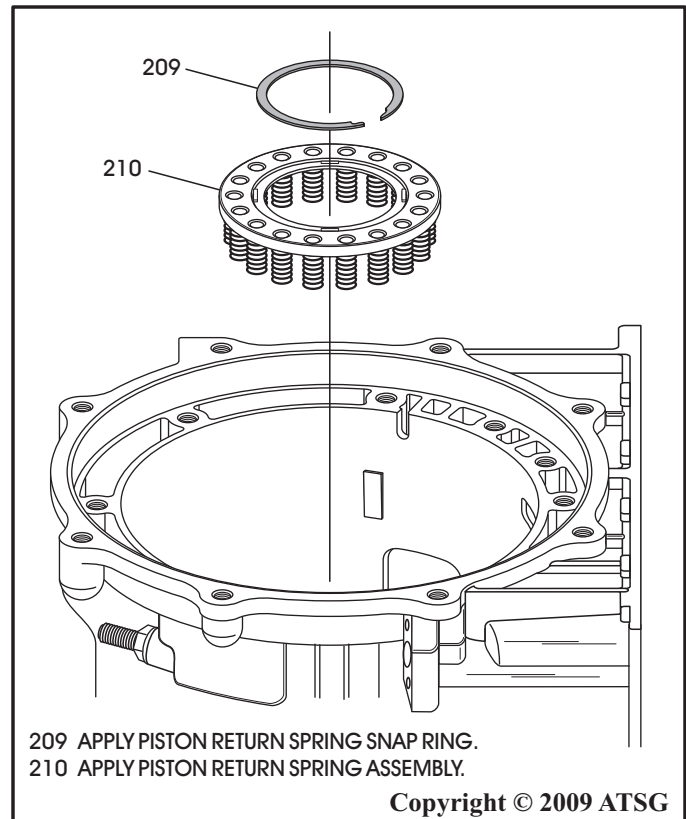

Figure 82
26. Install the piston return spring assembly, with the snap ring, as shown in Figure 82, ensuring the springs are engaged into the piston.